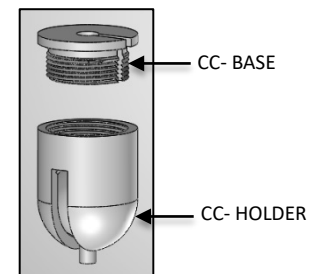

FIG. 16 - CEILING COUPLER ASSEMBLY
2. Dis-assemble the CEILING COUPLER into two components CC-BASE, CC-HOLDER as shown in FIG. 16.